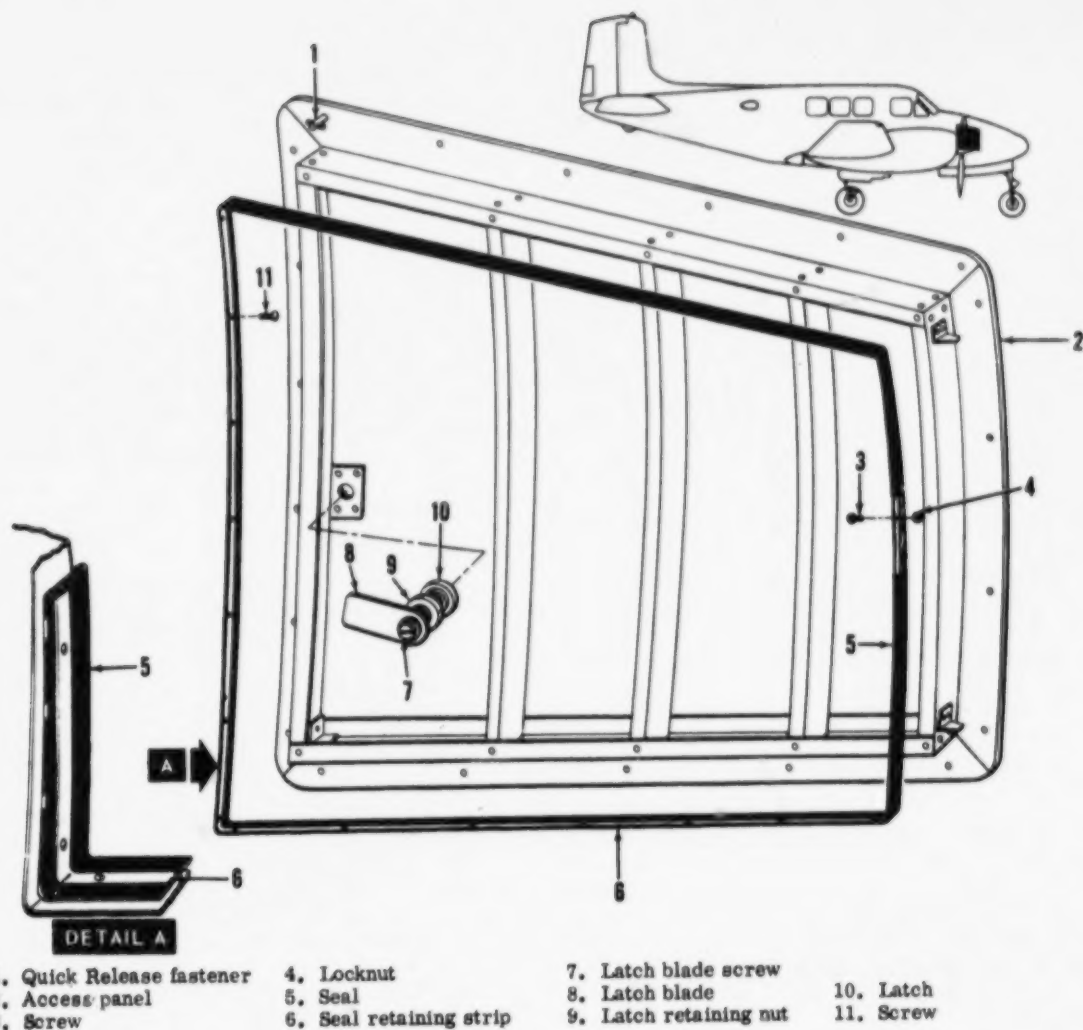

Figure 4-8. Nose equipment compartment access panel (U-8F)
4-31. An access panel, (2, figure 4-8) located on each side of the nose equipment compartment provides access to equipment located in the compartment. Quick release fasteners around outer edges of the panels, a key-operated latch and a rubber seal provide maximum security for the compartment.
a. Removal. (1) Unlock key-operated latch (10, figure 4-8).
(2) Release quick release fasteners (1) around edge access panel (2) and lift access panel from aircraft.
c. Inspection. (1) Inspect latch for proper operation.
(2) Inspect quick release fasteners for condition of locking pin and slot in head of fastener.
(3) Inspect area around quick release fasteners for condition of locking pin and slot in head of fastener.
(4) Inspect rubber seal for security, deterioration, and cuts.
d. Installation. (1) Position access panel (2, figure 4-8) and fasten quick release fasteners (1).
(2) Lock key-operated latch (10).
a. Removal. (1) Remove latch blade screw (7, figure 4-8) securing blade (8) to latch (10) and remove latch blade.
(2) Remove latch retaining nut (9) and lock-washer, then withdraw latch (10) from access panel.
b. Cleaning. Clean parts of latch with dry cleaning solvent (item 6, table 1-8) and dry with compressed air.
d. Installation. (1) Insert latch (10), figure 4-8) through access panel and secure with lock-washer and latch retaining nut (9).
(2) Position latch blade (8) and secure with latch blade screw (7).
a. Removal. Remove screws (3 and 11, figure 4-8) and locknuts (4) securing seal retaining strips (6); remove seal (5).
b. Cleaning. Clean surface to which seal is to be attached with toluene (item 73, table 1-8) and dry with compressed air.
c. Inspection (1) Inspect seal retaining strips for cracks and bends.
(2) Inspect seal for deterioration and cuts.
d. Installation (1) Position seal (5, figure 4-8) around access panel opening.
(2) Install seal retaining strips (6) and secure with screws (3 and 11) and locknuts (4).